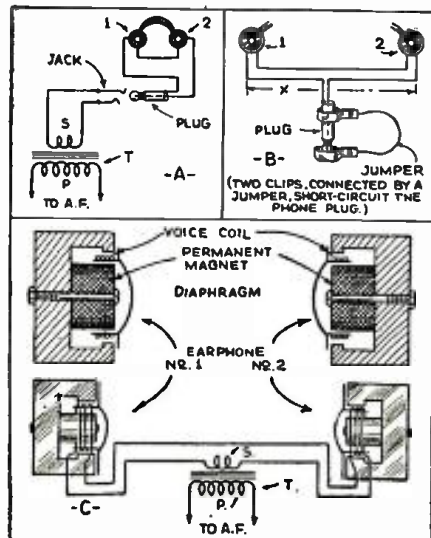

Fig. 2. Detail circuits mentioned in the text.
Note that the response of the dynamic type is secured at very low values of impedance. This makes it quite convenient to work one earphone into the other, in transducer fashion, as optional microphone and reproducer, as shown in heading illustration Fig. A, and sketch Fig. 2. The latter figure also presents a qualitative method of illustrating the amazing overall efficiency of the new dynamic headphones.
In Fig. 2 is shown, at A, the manner in which the headphones are matched into an audio circuit. Matching transformer T. has a high-impedance primary that connects to the audio equipment; the secondary of this transformer has an impedance sufficiently low to match into the voice-
*One chassis, 1/4-in. stock, per dimensions in Fig. 2;